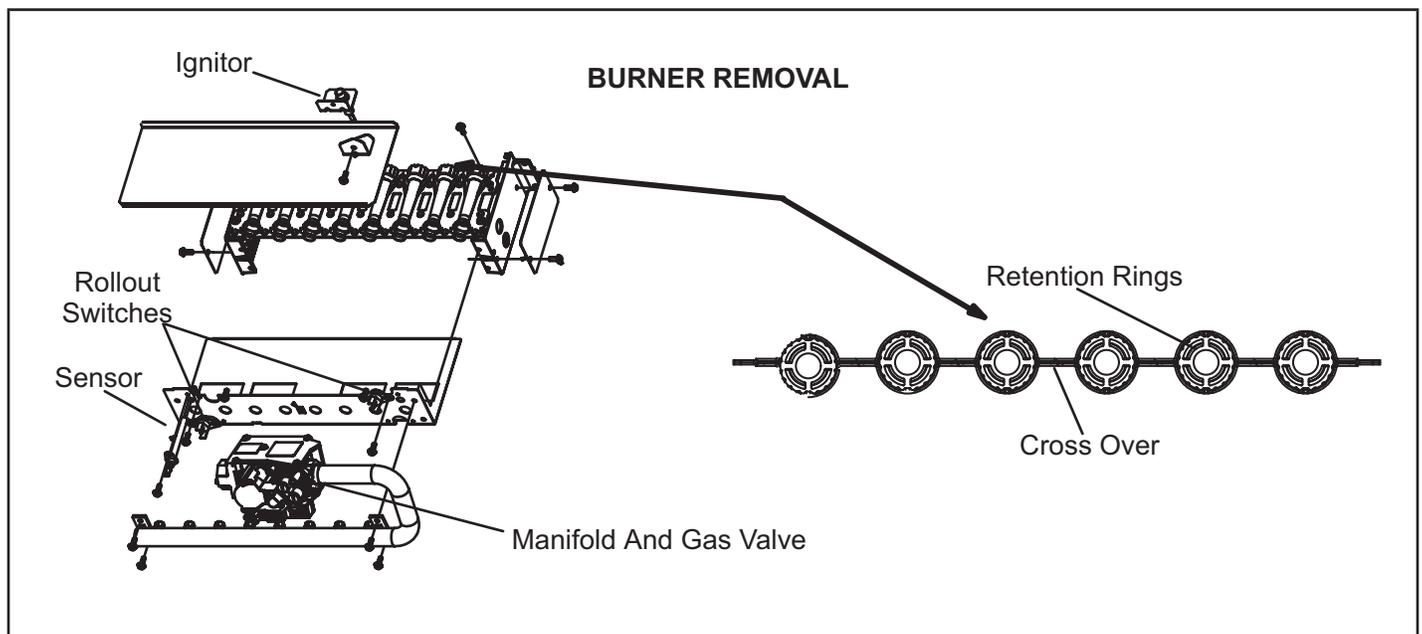

FIGURE 36
- 4 - To clean burners, run a vacuum cleaner with a soft brush attachment over the face of burners. Visually inspect inside the burners and crossovers for any blockage caused by foreign matter. Remove any blockage. "FIGURE 36" shows burner detail.